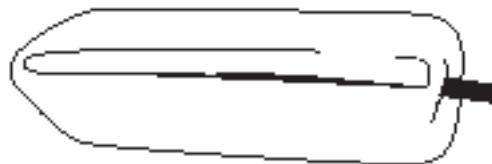

fig. 2
2. Remove the plastic cap from the barbed stem on the end of the air spring. Exhaust the air from the air spring by rolling it up toward the barbed stem. Replace the cap on the stem to hold the flat shape (fig. 2). Fold the air spring into a "hot dog bun shape".